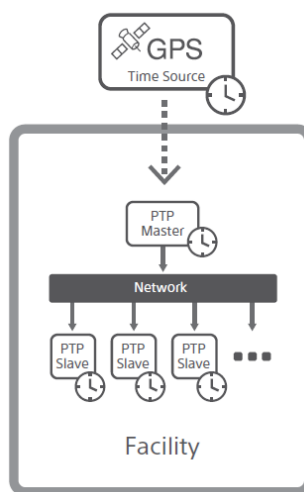

Figure 3: Idealized use case of PTP for a 'Green Field' Facility
2. The migration from current synchronization systems. **Figure 3** shows an idealized IEEE 1588-based synchronization system in which a global time reference, such as GPS, is used as the time source. By sharing a reference time, synchronization can be achieved between PTP slaves that are even not necessarily connected to the same PTP (grand) master. While this could be the optimum solution for new facilities, it does not consider migration from a legacy synchronization system.